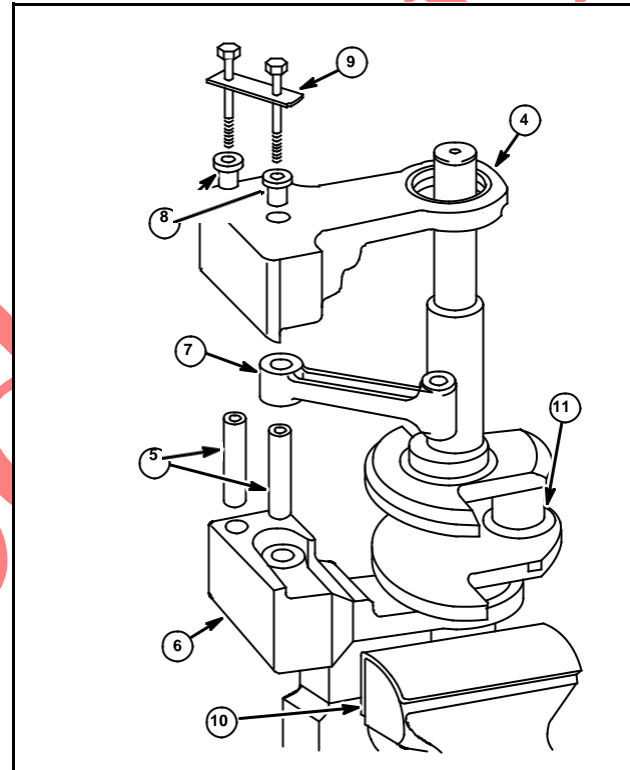

Fig. 11
1. Assemble magneto side eccentric on crankshaft (6) with chamfer toward crankpin. Make sure eccentric is seated against counterweight on crankshaft.
2. Slide flywheel side counterweight onto crankshaft, Fig. 11.
3. Place crankshaft and counterweight in a vise (10) with soft vise jaws or shop rags to protect magneto journal.
4. Install dowel pin(s). Slip link over dowel pin with rounded edge of free end up, Fig. 11.